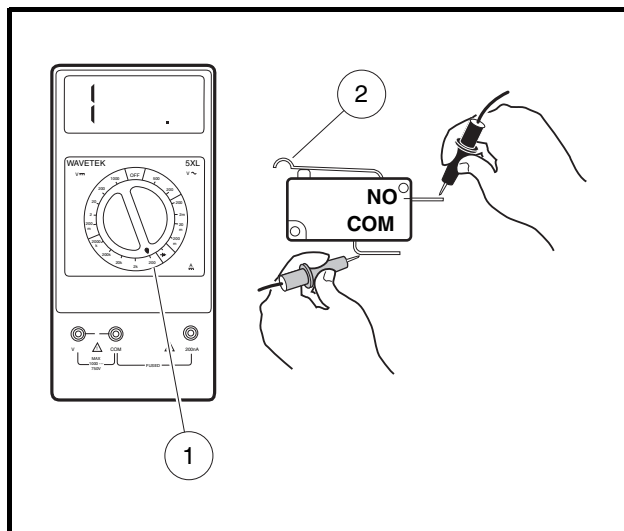

Figure 12-28 Kill Limit Switch Test
- Place the red (+) probe of the multimeter on the common (COM) terminal (white/black wire) of the limit switch. Place the black (–) probe on the normally open (NO) terminal (black wire) of the limit switch. Without the lever pressed, the reading should be no continuity. Press the lever, and the reading should be continuity. If either reading is incorrect, replace the limit switch (**Figure 12-28, Page 12-27**).